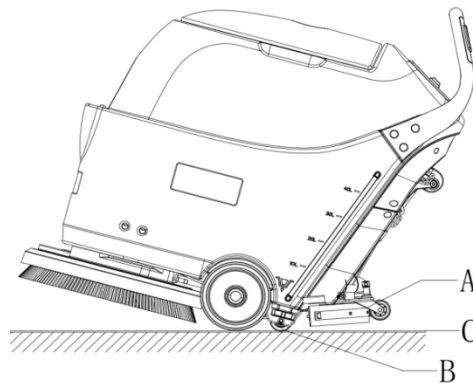

Figure 11
1. Release the safety switches (1), and then brush/pad-holder stop working.
2. Press the brush switch (46), vacuum switch (47) and power switch (45) to off position “o”.
4. Lifting the squeegee (A, Figure 11) from the ground by squeegee lever (14).
5. Hold the machine handlebar (2) and lean back machine until assist wheels (B, Figure 11) touch the ground.